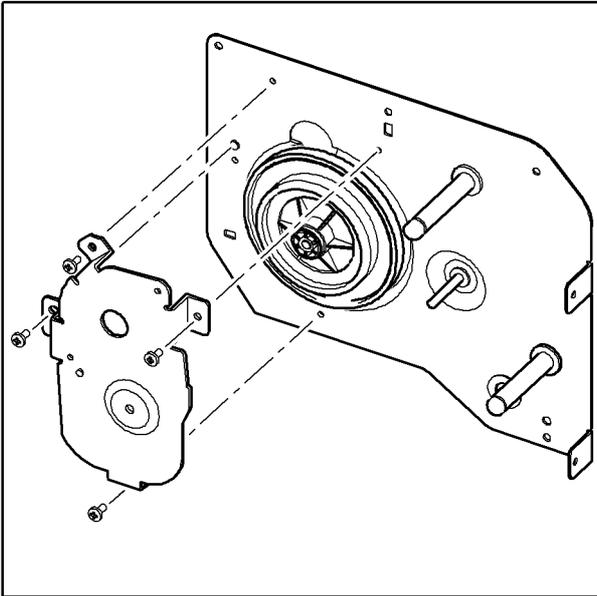

Figure 6
10. Remove 4 screws, then the motor bracket, Figure 6.